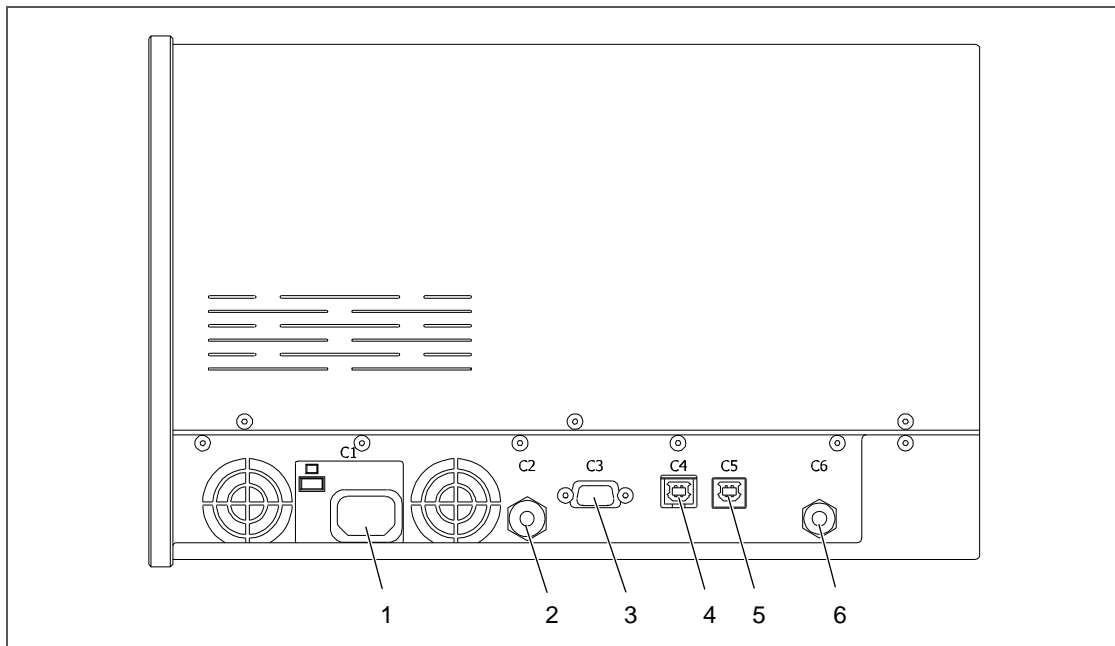

Fig. 14: Connection assignment (view from left side)
(see Fig. 14, page 30) |
(see Fig. 14, page 30) | 5 Measuring gas cell outlet |
3. Connect the forced air with connection C6 (6, Fig. 14, page 30) at the left device side.
4. Connect the communication cable to PC with connection C4 (4, Fig. 14).
5. Connect the power cord with connection C1 (1, Fig. 14).